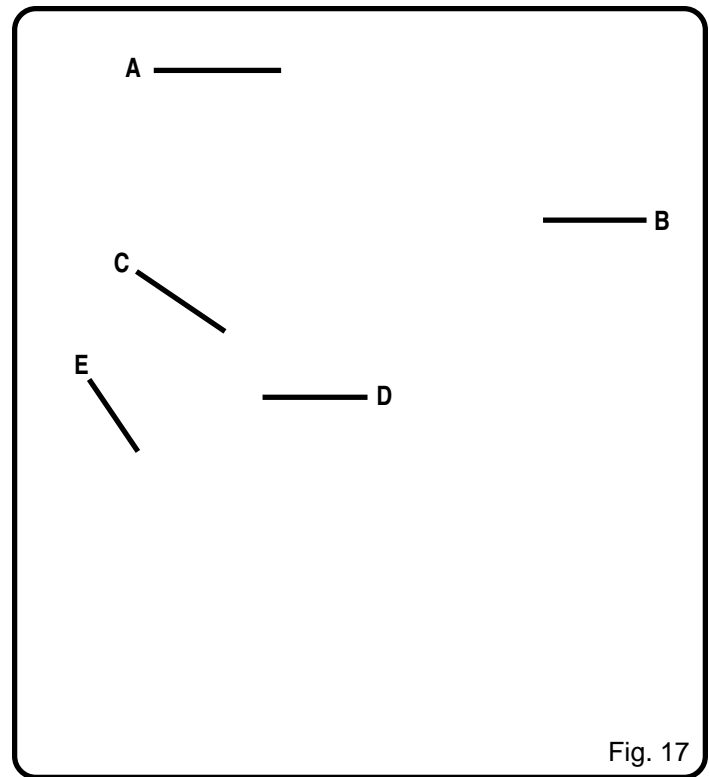

Fig. 17
See Figure 17.
4. Remove screws (A) and subbase (B). See Figure 17.
5. Remove screw (C) and work light lens (D).
6. With bulb (E) pointing toward you, pull bulb from socket.